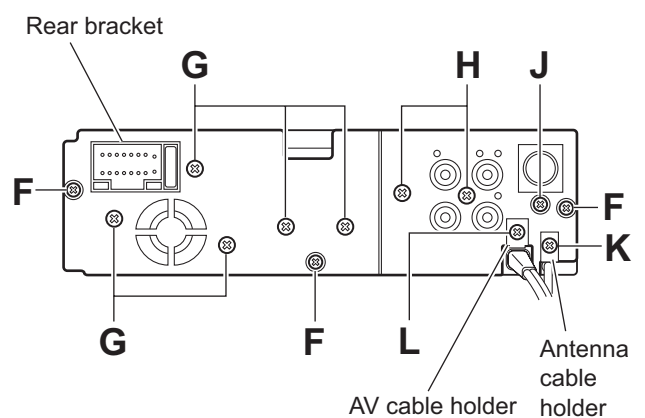

Fig.6
3.1.5 Removing the rear bracket (See Fig.6)